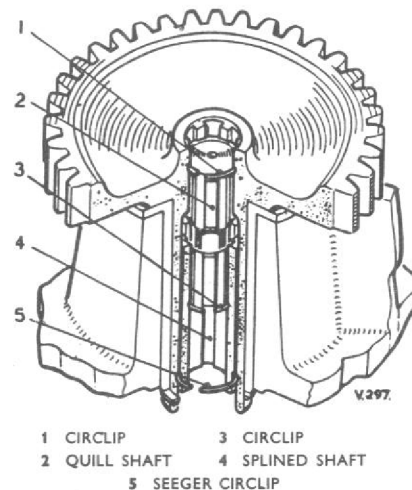

Fig. 5. Fuel pump drive quill shaft assembly
Fuel pump drive gear quill shaft (fig. 5)
- (2) Push the quill shaft into the bore of the gear to abut the circlip.
- (3) Fit another new circlip (Part No. 26066) to the recess in the bore of the splined sleeve.
- (4) Assemble the sleeve, with the short splined end first, into the bore of the gear to engage the splines of the quill shaft.
- (5) Secure the sleeve with a new circlip (Part No. 26109).
- (6) Repeat the above operations for the other fuel pump drive gear.
Warning—Ensure that the Seeger circlip ((5) in fig. 5) covers the $\frac{1}{8}$ inch extractor hole, as otherwise, oil will leak through into the fuel pump housing once every revolution when the extractor hole coincides with the pressure oil groove.